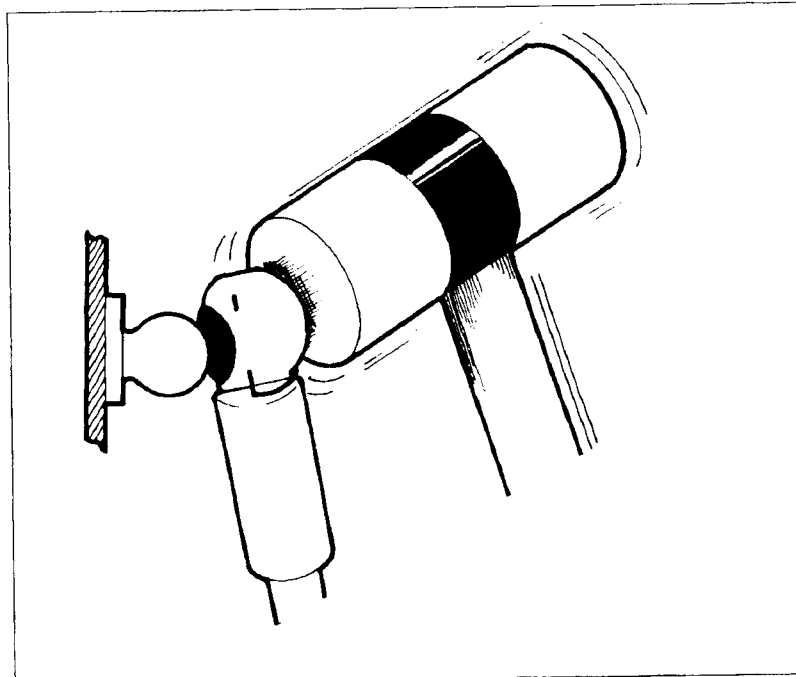

Figure 6-45. Swing Gate Gas Spring Socket Installation
- b. Install the top gas spring socket onto the top connection point. To do this, place the top gas spring socket against the gas spring connection ball. It can be observed that the socket is positioned slightly higher than the ball. To fit the socket onto the ball joint, use a mallet to strike the gas spring so that the force drives the socket downward and inward (see Figure 6-45). (Note the gas spring cannot be compressed by leaning or pushing on it to force it down.)